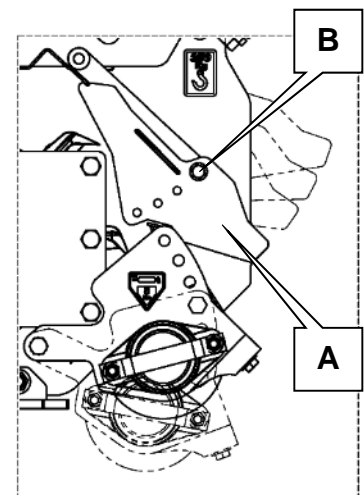

Figure 1.7
1.5.1.2 The adjustable rear guard (see Figure 1.7 A) is fastened at each end of the cowl by a bolt (see Figure 1.7 B).